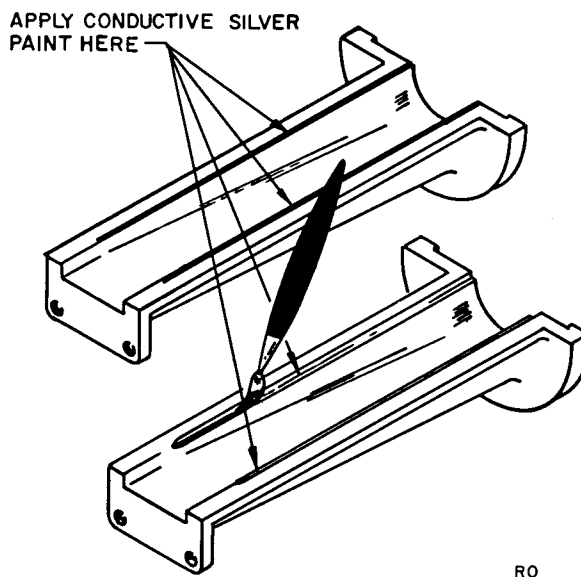

Figure 14 *Application of Conductive Silver Paint to End Section*
5. Apply conductive silver paint along the inner edges of the end section halves as shown in Figure 14.